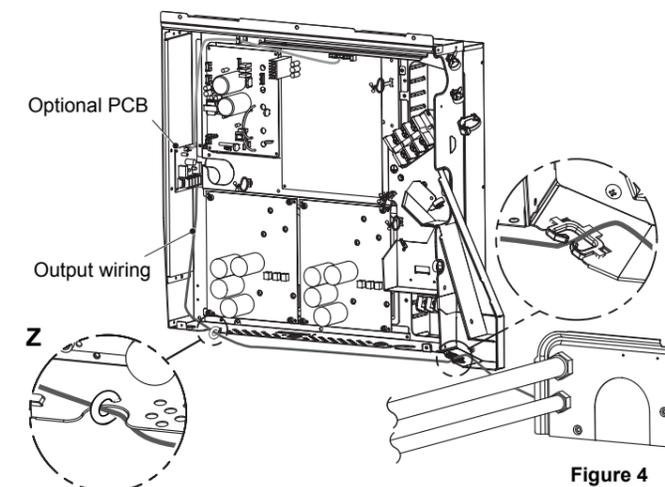

Figure 4
- (1) Tie an output wiring with the binding band A ([5]) at the position Z shown in the Figure 4.
- (2) Route the connection cable as shown in the Figure 4. Also, use lower conduit hole for wiring.
As shown in the Figure 4, the output terminals are "OUTPUT1", "OUTPUT2" and "OUTPUT3" from left to right of the compressors facing to the front of the outdoor unit.